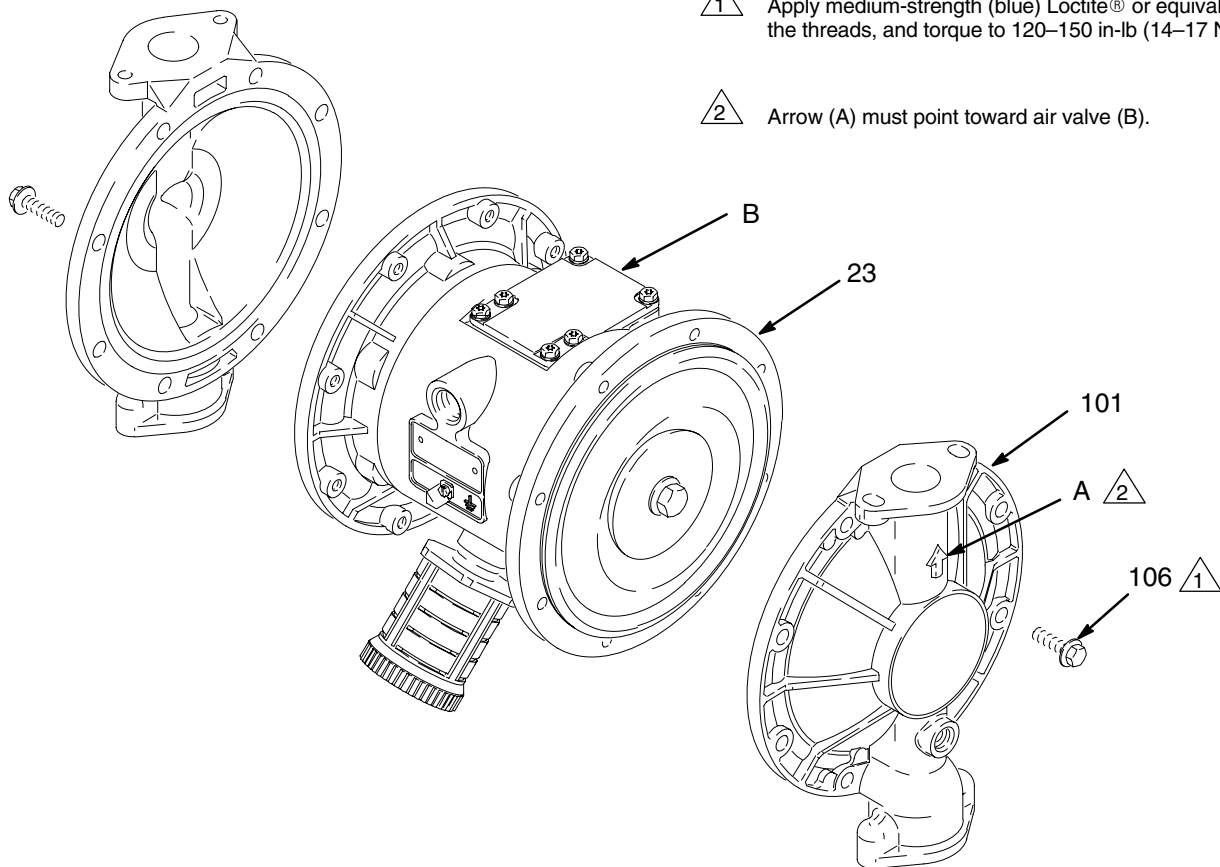

Fig. 13
3. Using a 10 mm socket wrench, remove the screws (106) holding the fluid covers (101) to the air covers (23). Pull the fluid covers (101) off the pump. See Fig. 13.
- c. *On PTFE models only*, install the PTFE diaphragm (403*). Make certain the side marked AIR SIDE faces the center housing (1).
- d. Install the diaphragm (401*) on the bolt. Make certain the side marked AIR SIDE faces the center housing (1).
- e. Install the air side diaphragm plate (104) so the rounded side faces the diaphragm (401). This plate is used on all models, and is stamped with its part number.
- f. Apply medium-strength (blue) Loctite® or equivalent to the bolt (107) threads. Screw the bolt into the shaft (24) hand tight.
3. Grease the length and ends of the diaphragm shaft (24), and slide it through the housing (1).
5. Hold one shaft bolt (107) with a wrench and torque the other bolt to 20–25 ft-lb (27–34 N.m) at 100 rpm maximum.
6. Align the fluid covers (101) and the center housing (1) so the arrows (A) on the covers face the same direction as the air valve (B). Apply medium-strength (blue) Loctite® or equivalent to the threads of the screws (106). Secure the covers with the screws handtight. See Fig. 13. Using a 10 mm socket wrench, torque the screws oppositely and evenly to 120–150 in-lb (14–17 N.m).